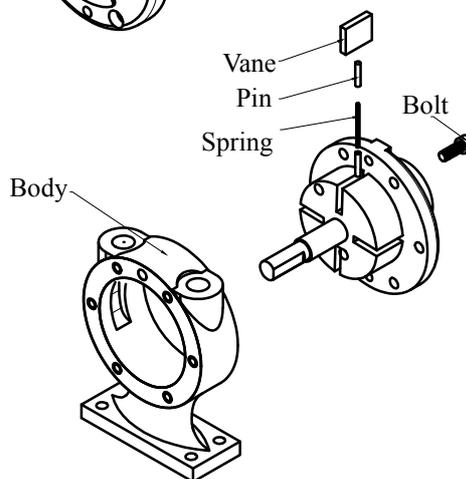

Fig. 6
5. Remove the body and vanes. Refer to fig. 2, fig. 4, fig. 6.